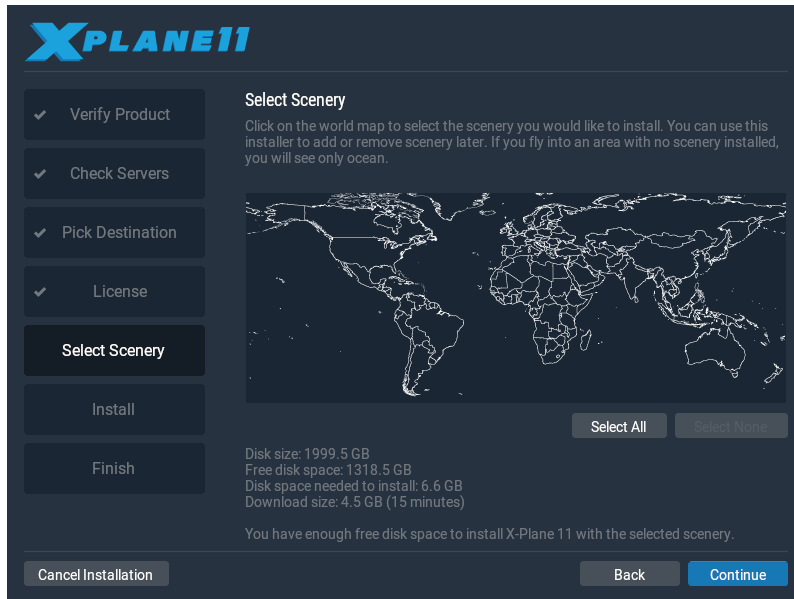

Figure 3.4: No scenery selected after clicking the **Select None** button during the installation
6. Select the scenery you would like to install. Parts of the world that are currently selected will be a bright blue color (as all tiles are in Figure 3.3). If you are unsure what areas are currently selected, just click **Select None** to turn everything off (as seen in Figure 3.4). From there, move your mouse around the map to highlight sections of the world and click on the ones you would like to install. Note that for regions where no scenery is installed, only oceans and airports will be visible. When you’re finished selecting scenery, click **Continue** to begin installing.